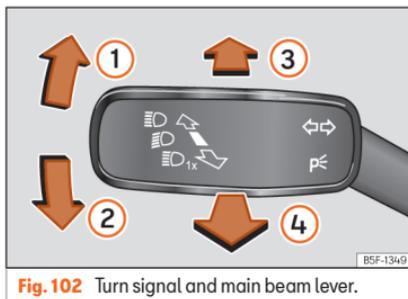

Fig. 102 Turn signal and main beam lever.
- From the base position, press the turn signal and main beam headlights lever forwards »» **Fig. 102**  When the lamp  is displayed on the instrument panel display, the main beam assist is switched on.
- **OR:** while the main beam is on, pull the turn signal light and main beam headlights lever forwards »» **Fig. 102** .